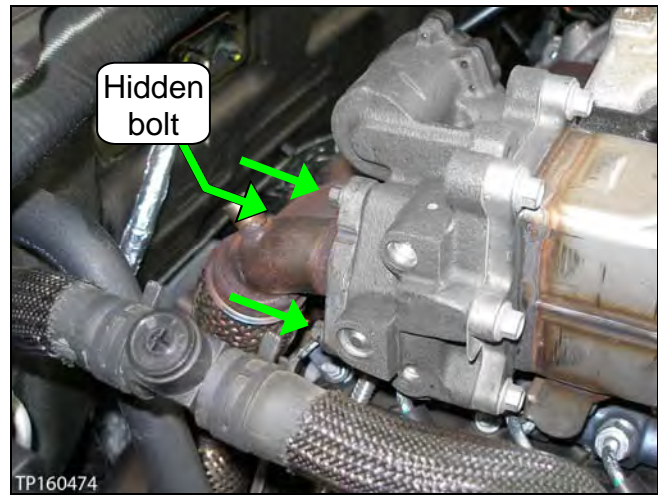

Figure 88
32. Install the three (3) EGR valve inlet pipe bolts (see Figure 88).